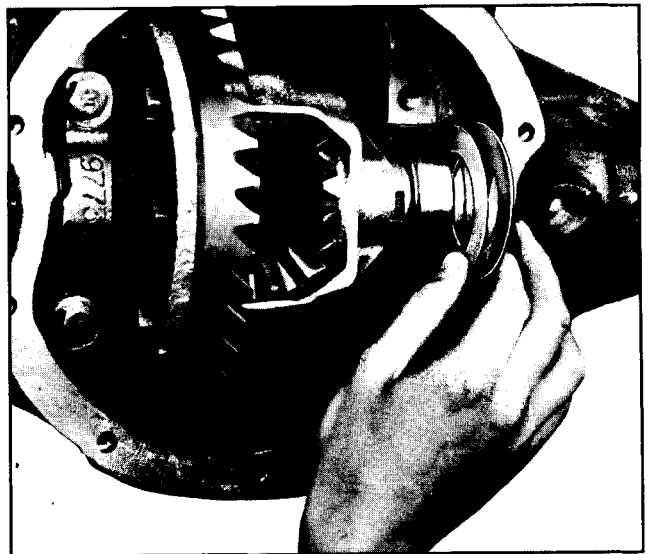

Fig. 4A-41 Installing Service Shims
- a. Measure production spacers (Fig. 4A-39), and subtract .004" from each reading. Do not mix the left and the right spacers.
- b. Using a service spacer (.170") and service shims make up a shim pack for each side equal to the thickness of the original shim minus .004" and install as shown in Fig. 4A-40 and 41 (flat edge of spacer against housing). This will duplicate the original setting minus pre-load.